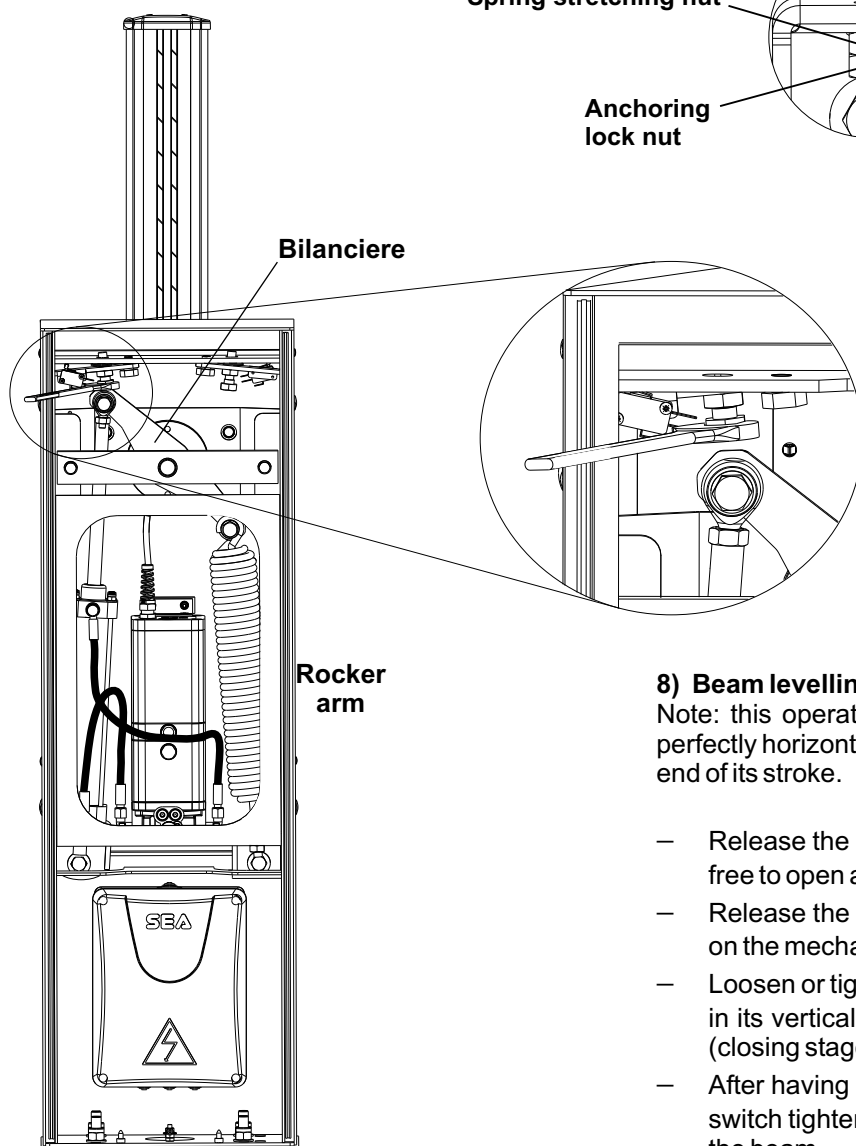

Fig. 14
- Release the screws of the limit switch on unscrewing the nuts on the mechanical stops (fig. 14).
- Loosen or tighten the stop screws so that the beam is released in its vertical position (opening stage) and horizontal position (closing stage) (Fig. 14).